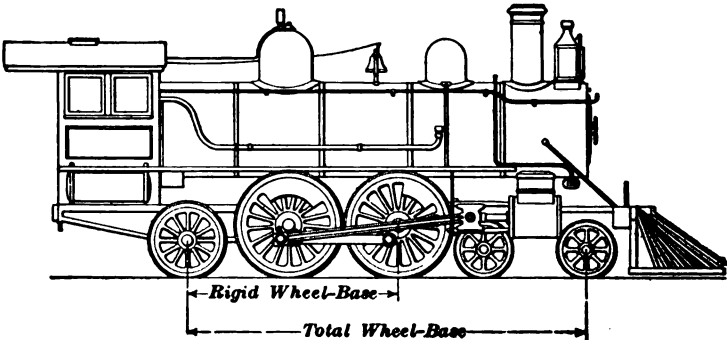

FIG. 13.
8. *Atlantic*.—This engine, illustrated in Fig. 13, is a special type, that is fast coming into use for high-speed service. It has four drivers, a four-wheeled truck, and a pair of carrying wheels under the firebox.
**62.** The **rigid wheel base** of a locomotive is, in the majority of cases, the distance between the centers of the first and last driving axles, Figs. 7-12. In Figs. 13 and 14 the rigid wheel base includes the rear, or trailing, pair of wheels; these wheels as a rule, however, are given more play than the drivers.
The **total wheel base** is the horizontal distance between the centers of the axles of the first truck wheel and the last driving wheel—or, in Figs. 13 and 14, the pair of trailing wheels.